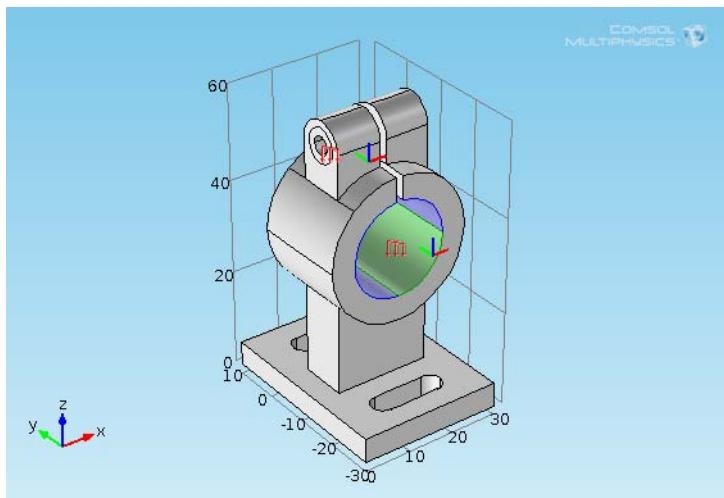

Figure 14-5: Example of the Boundary Load physics symbols as displayed in the COMSOL Multiphysics Model Library model Deformation of a Feeder Clamp.
- 4 When adding the boundary, edge, or point (a geometric entity) to the **Selection** list in the feature settings window, the symbol displays in the **Graphics** window. See Figure 14-5.